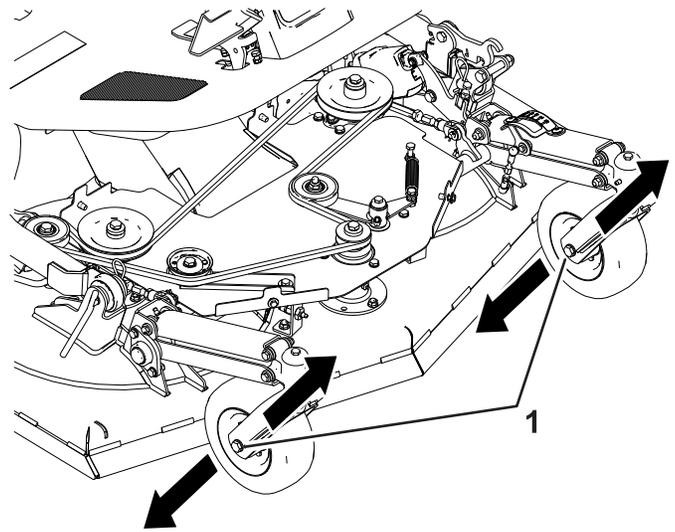

Figure 104
- A. Loosen the caster-wheel bolt on one side (Figure 104).
- B. Adjust the caster wheel bolt in the slot and tighten the bolt (Figure 104).